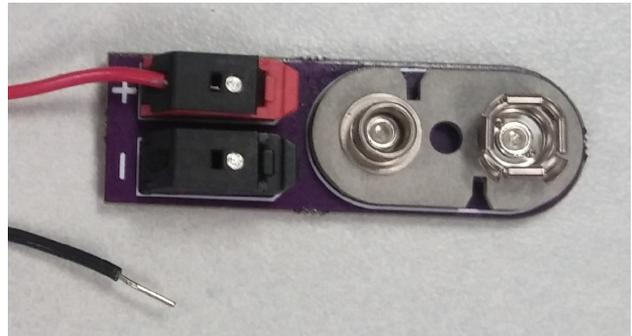

Figure 4: Snap connector
- Snap connector adapter (fig. 4)
Snap Connector (fig. 4): Used with a Pup, Retriever, or DataScout Modem.